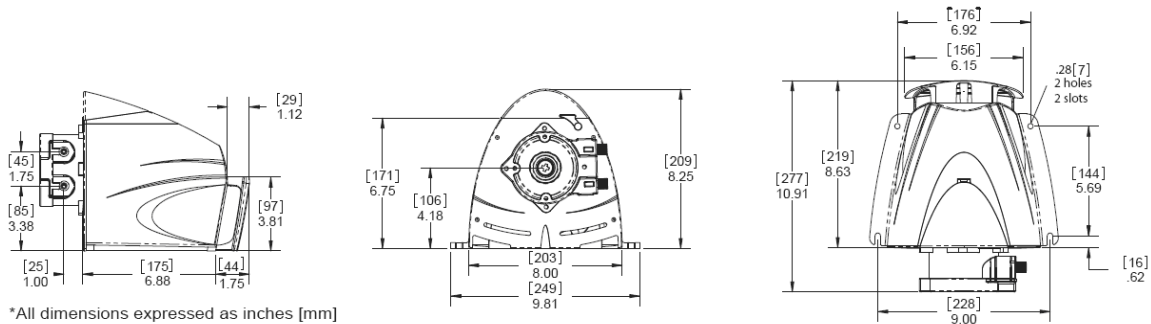
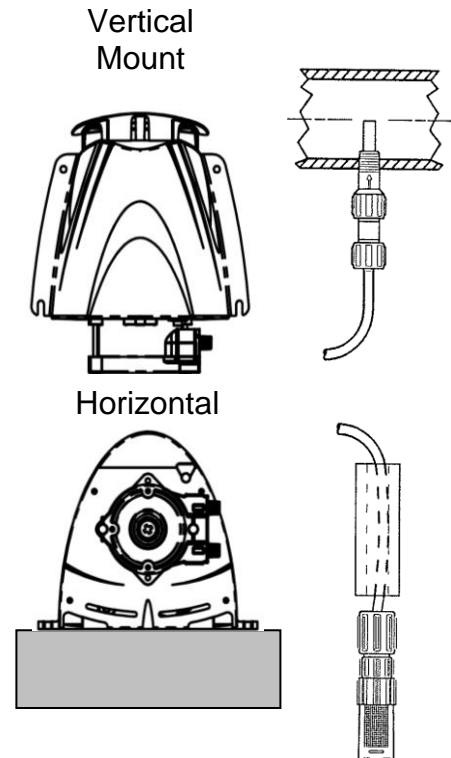

Figure 1: Pump Dimensions
Figure 2: Injector Placement
Figure 1 provides a quick reference for installation dimensional requirements.
1. The pump can be installed either vertically or horizontally (See Figure 2). Make sure to secure the pump on a flat level surface that will support 50-lbs (22kg) and secure with four .25-in (6mm) screws in the holes provided. The guard snaps into the back of the pump via three tangs (See Figure 1). The pump should be mounted with no less than 1.75-in (44mm) of clearance around the venting on both the front and the rear of the pump. Locate the pump so there is direct access to the power cord plug.
3. Relieve the system pressure and drain the piping run where the injection fitting is to be installed. See Figure 2 for reference. **The injection fitting must not be installed in a dead end pipe or a deeply recessed tee. It should be installed so as to place the tip at the center of the fluid stream as indicated in Figure 2.** The injection fitting is supplied with .25-in NPT threads. If necessary drill a .44-in (11mm) diameter hole, and using care not to tap too deeply, tap for .25-in NPT.